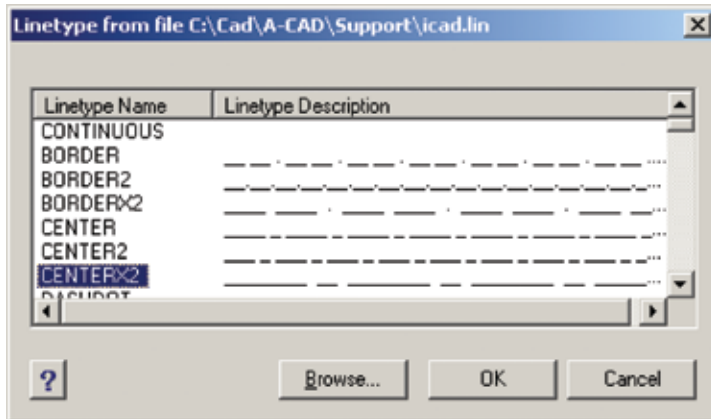

Figure 9.4
- The Linetype dialog box appears. See Figure 9.4.